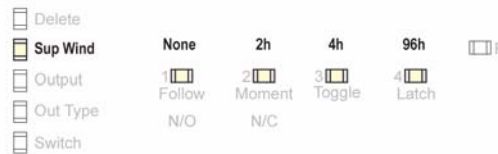

Figure 4 Select the Supervision Window
4. Use the **Advance** button to choose a supervision window of None, 2h, 4h and 96h. Press **Program** to complete and advance to the output type option (Fig. 4).